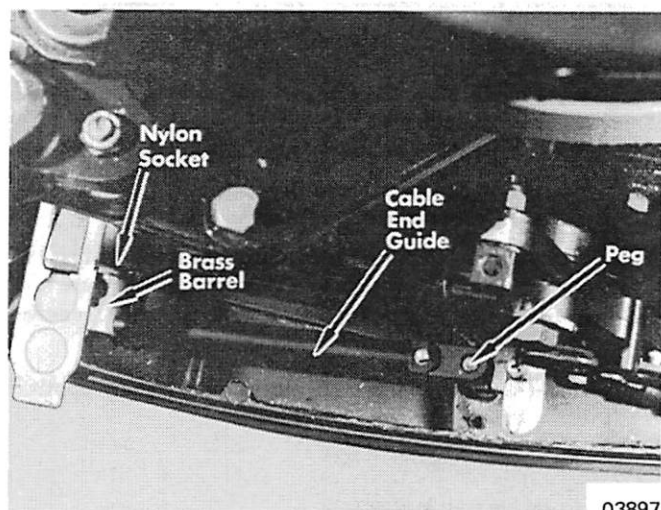

Figure 1. Shift Cable
2. Place brass barrel in recess in nylon socket and cable end guide over peg without disturbing neutral setting. (Figure 1) If necessary, readjust brass barrel for correct position and to compensate for backlash.